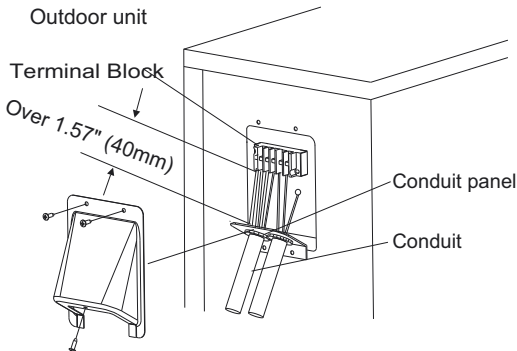

Fig. 11 – Field Wiring
5. Connect the conduit to conduit panel (see Fig.11).